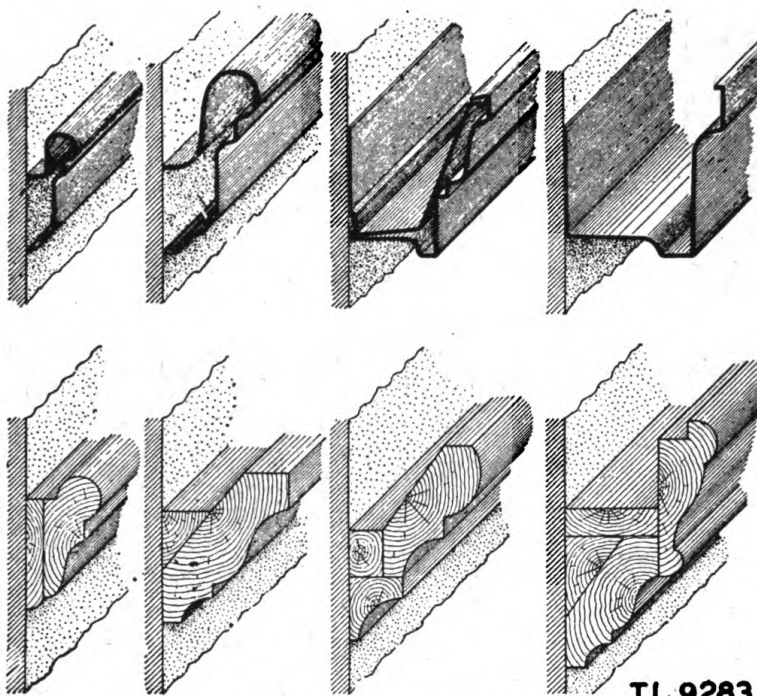

Figure 95. Typical moulding raceways.
*g.* **MOULDING RACEWAY.** Moulding raceways are of various types. (See fig. 95.) Picture moulding is obtainable for use in small rooms; large metal or wood moulding is designed for use in assembly halls, etc. The conduit is placed through the walls between rooms or assembly halls and connects the moulding to distributing terminals.